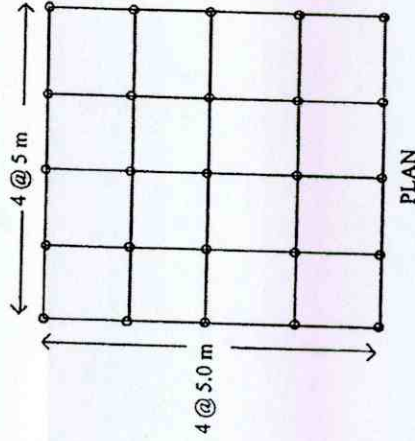

Fig. 1
- Q.3 For the building plan shown in Fig. 1., determine the seismic loads and shear force at each floor level. Give the neat sketch of base shear at each floor. Consider the following data: